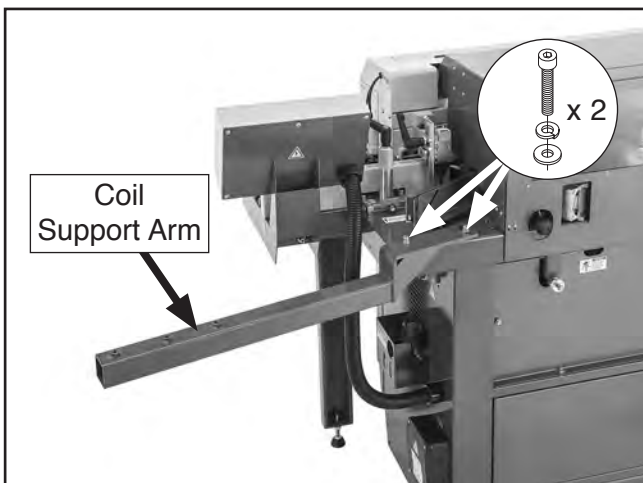

Figure 23. Coil support arm installed.
5. Remove (2) pre-installed M8-1.25 x 20 cap screws, (2) 8mm lock washers, and (2) 8mm flat washers, then use them to install coil support arm (see **Figure 23**).